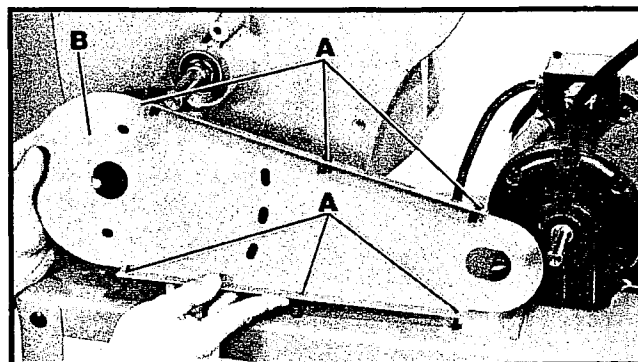

Fig. 9
1. Thread the six self-tapping screws (A) Fig. 9, about halfway into the six holes provided in the ledge of the inside belt and pulley guard (B) as shown.